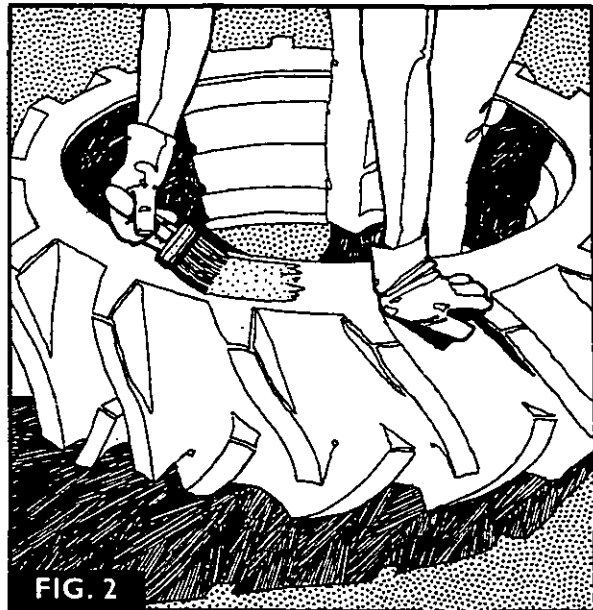

FIG. 2
5. Fig. 2. Lubricate the rim, tyre and base of the tube with a solution of soap and water or similar rubber lubricant.